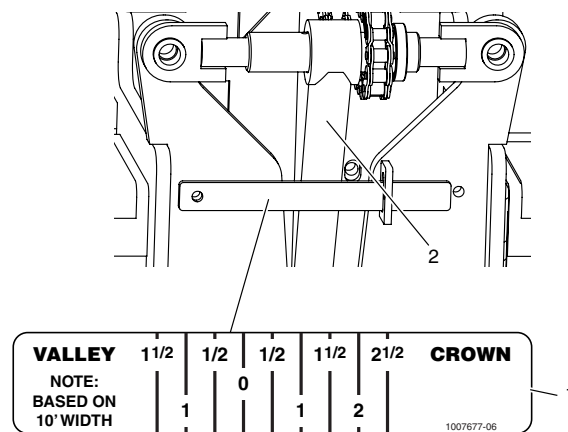

Figure 4-40. Crown Adjustment Location
2. Remove crown handle and insert into adjuster (Figure 4-40,2).
5. Use the gauge (Figure 4-40,3) located at the center of the screed above the standing platform. When rod is flush with tube end, screed should be flat. When rod is past flush, you will have negative crown. When rod is short of flush, you will have positive crown.
NOTE: Positive crown is when the middle of the mat is raised to permit water to drain to each side. Negative crown is the lowering of the center of the screed plate. Negative crown might be used in an alley where drainage down the center of the alley is necessary (Figure 4-40).